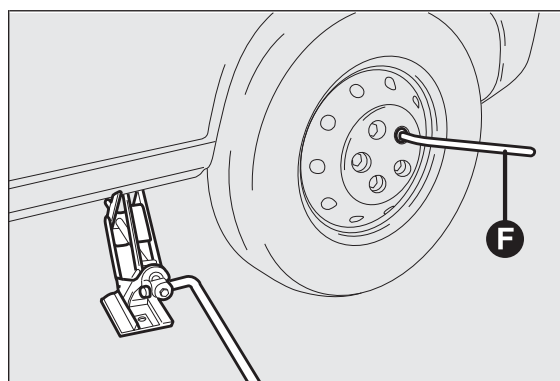

fig. 175
- ☐ use wrench F fig. 175 to completely unscrew the bolts and remove the wheel;